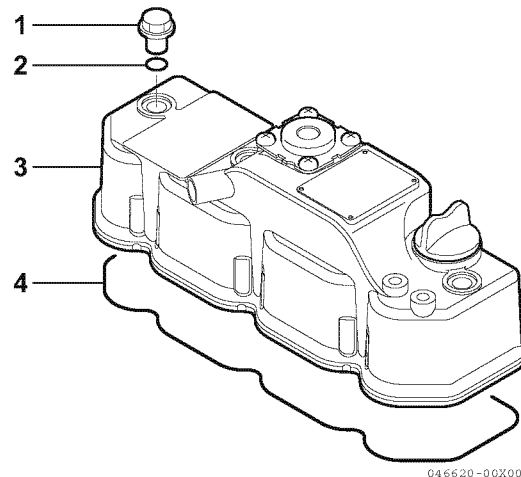

Figure 6-2
1. Remove the cylinder head cover nuts (1, **Figure 6-2**).
2. Remove the O-ring (2, **Figure 6-2**) on each cylinder head cover nut.
3. Remove the cylinder head cover (3, **Figure 6-2**) and the cylinder head cover gasket (4, **Figure 6-2**).